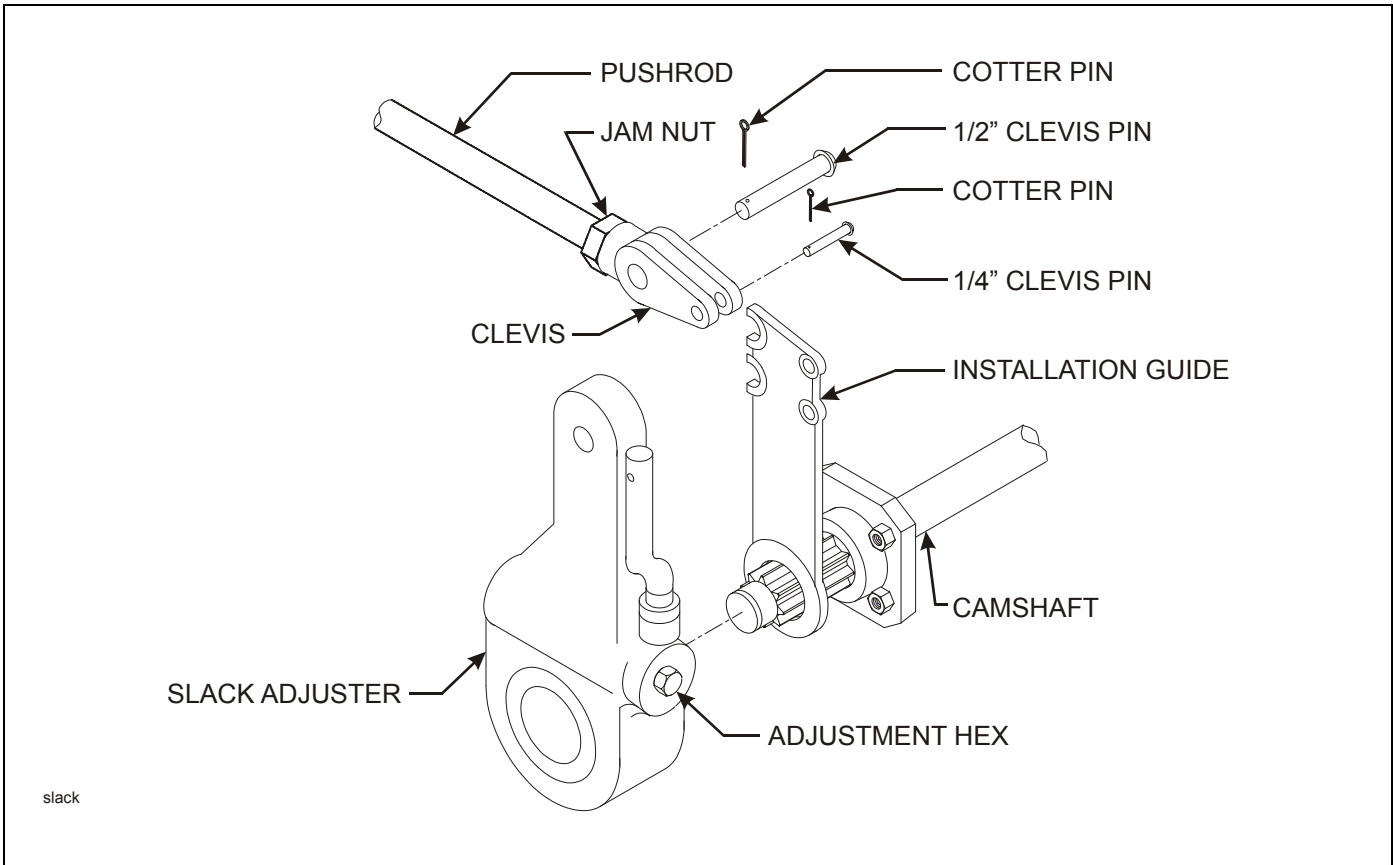

Figure 4-16: Slack Adjuster
4. Disconnect the slack adjuster from the connecting rod by removing the clevis pin (**See Figure 4-16.**)
4. Remount the brake chamber on the axle brackets and reconnect the air service hoses and the slack adjuster connecting rod (**See Figure 4-16.**)
2. Check that the push rod is fully retracted, apply air to release spring brake **(See Figure 4-16.)**
3. Remove the existing slack adjuster and clevis - **DO NOT REMOVE EXISTING JAM NUT (See Figure 4-16.)**